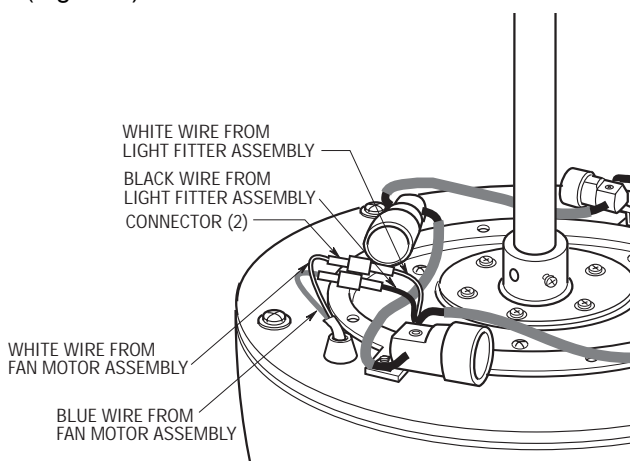

Figure 3
3. Connect the white wire light fitter assembly connector to the white wire fan motor connector. Connect the black wire light fitter assembly connector to the blue wire fan motor connector (Figure 3).